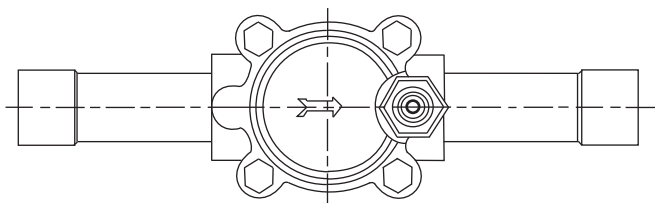

Fig. 42 — Refrigerant Flow Direction
- The PWM valve has a refrigerant flow directional arrow located on the top of the valve to ensure correct horizontal orientation. See Fig. 42.